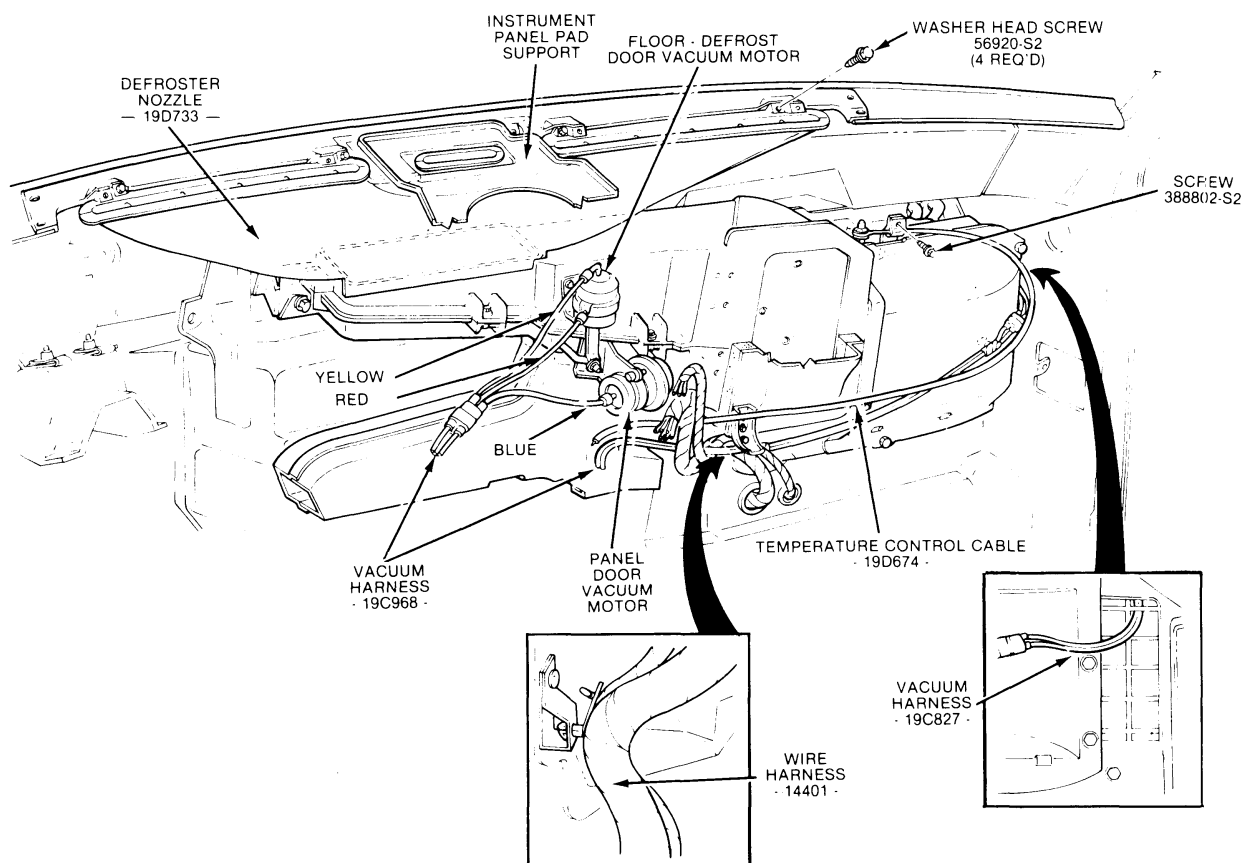

Fig. 12 — Control Cable and Vacuum Hose Routing
2. Working through the glove compartment opening, remove one (1) screw attaching the temperature cable to the cable bracket on top of the plenum (Fig. 12).
3. Position the control assembly to the instrument panel opening and install the four (4) attaching screws. Connect the vacuum and wire harnesses to the control assembly if it was necessary to disconnect them during removal.
5. Position the center finish panel to the instrument panel and install the two (2) attaching screws.
7. Route the temperature control cable as shown in Fig. 12 and connect the pigtail to the temperature door crank arm with the pigtail pointing up away from the bend in the crank arm. Then, install the spring nut to retain the cable on the door crank arm.